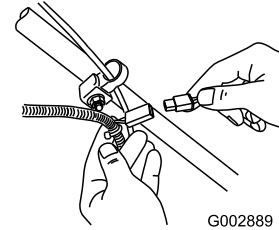

Figure 22
1. Connect the charger to the wire harness located below the ignition key (Figure 22).